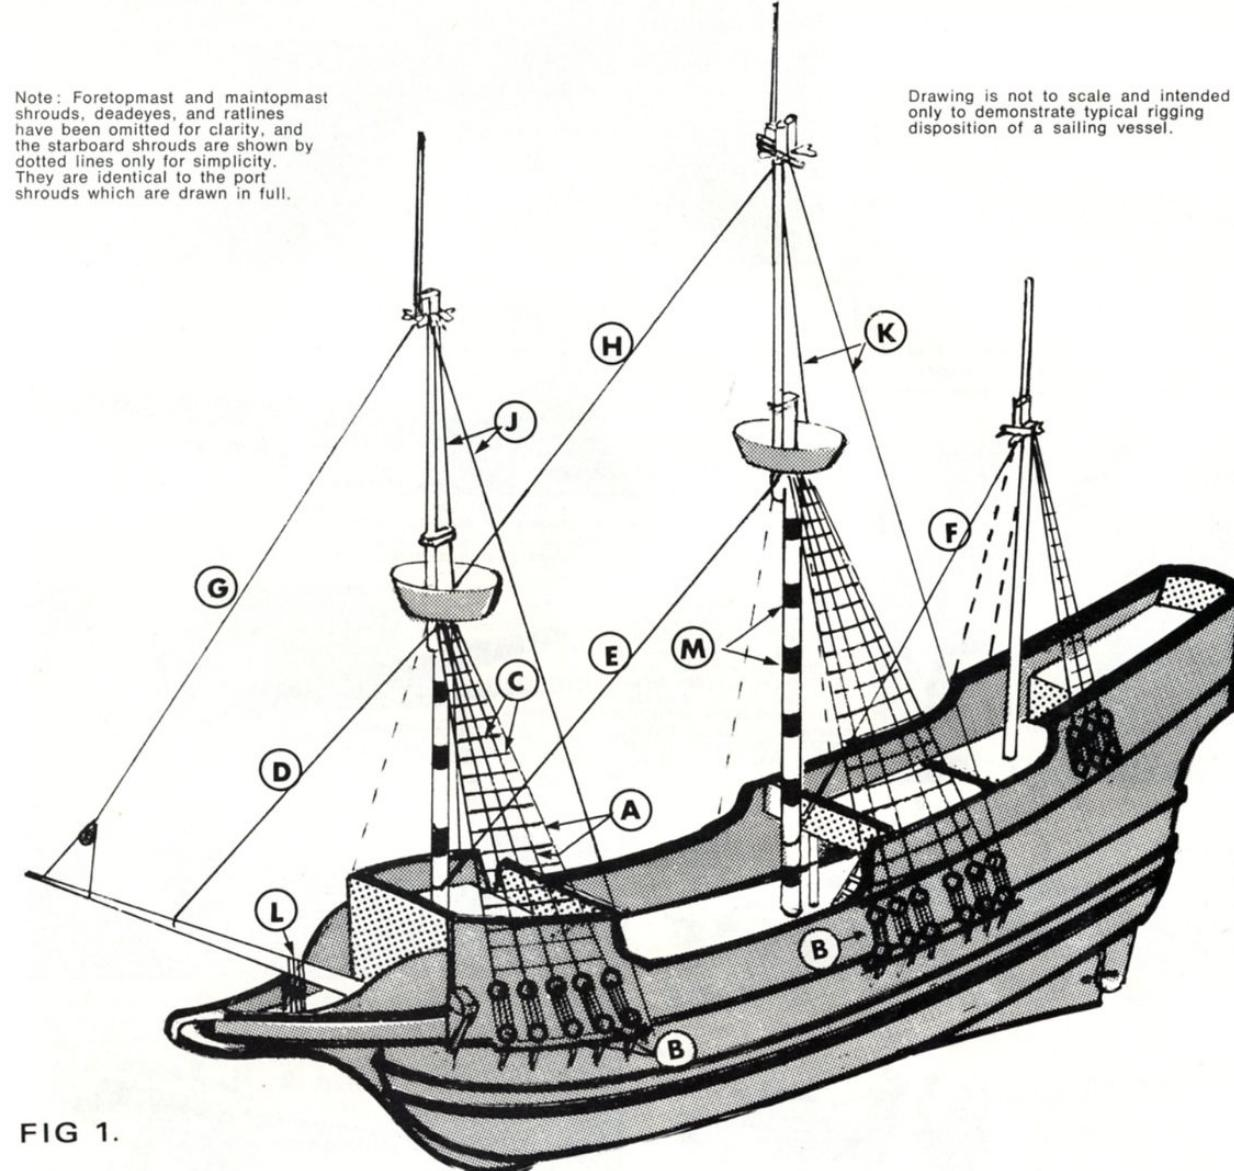

FIG 1.
Standing rigging This supports the masts and is not movable. It was usually coated with tar to protect it from the elements, and black thread should therefore be used for it. Fig 1 shows a three-mast of about 1600 with its standing rigging in place, but the basic principles apply equally to an Elizabethan galleon or to a full-rigged 19th century clipper. Each mast is supported sideways by shrouds (A) which lead to deadeyes (B)